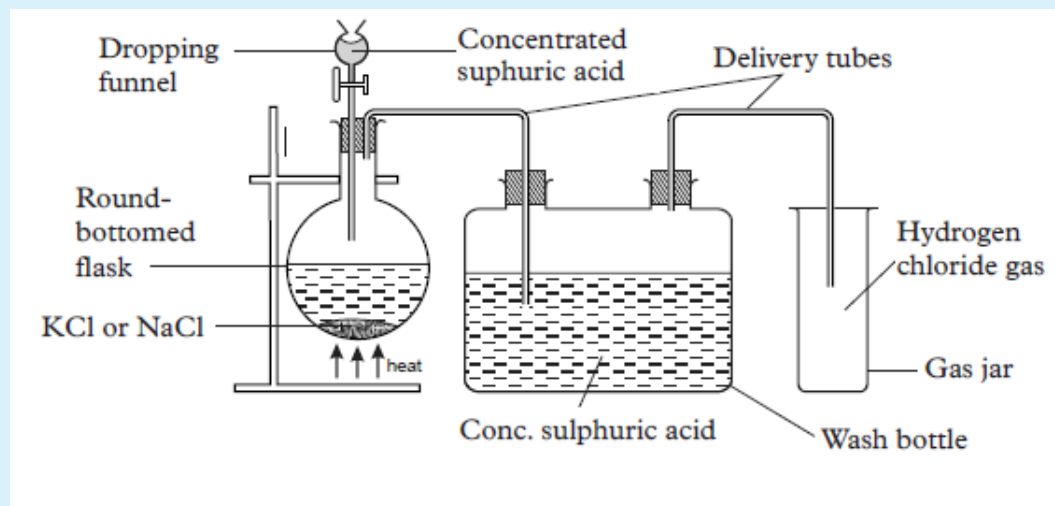

Fig. 4.2.1 (a): Laboratory preparation of hydrogen chloride
- a) Direct dry hydrogen chloride gas through the inverted funnel to a beaker of water as shown in figure 4.2.1 (b). Note down your observations.